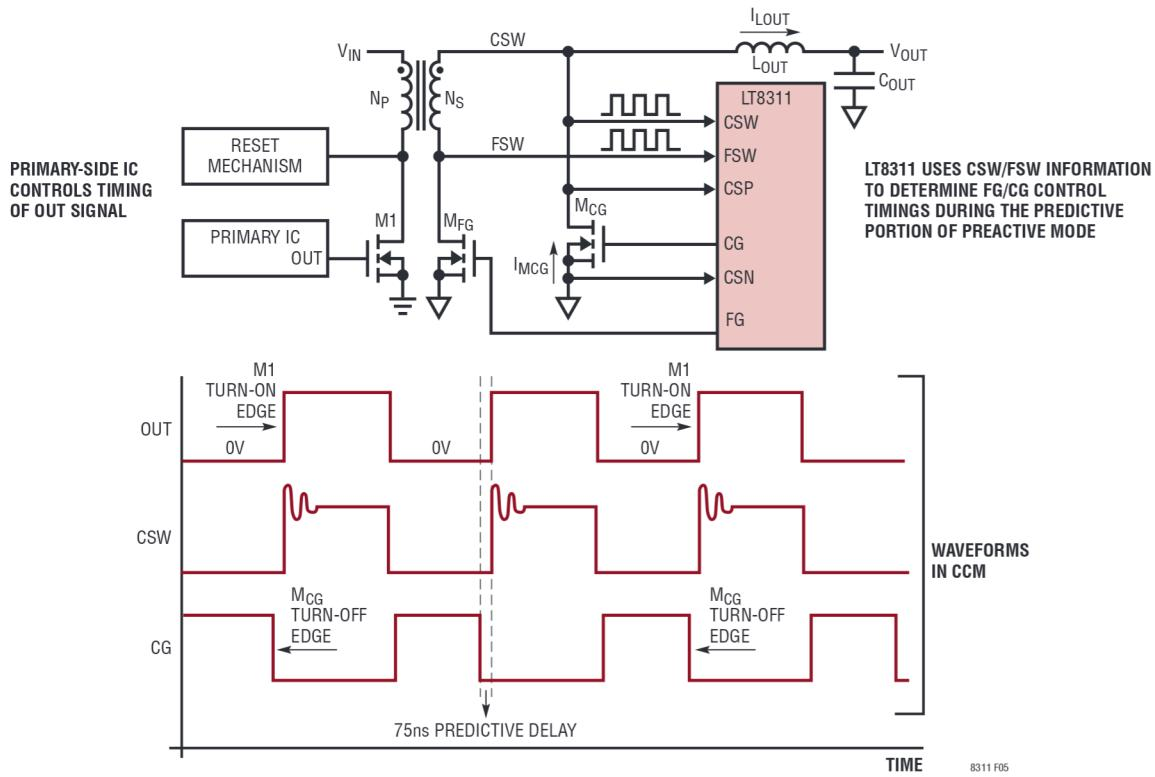

Figure 5. During the Predictive Portion of Preactive Mode, the LT8311 Phase Locks into the CSW Rising Edge and Turns Off M_{CG} 75ns Prior to This Edge
"Preactive" is short for "predictive" + "reactive". In preactive mode, the LT8311 controls the secondary synchronous MOSFETs without any communication from the primary-side IC. In preactive mode, the catch MOSFET, M_{CG} , is turned on (CG rising edge in Figure 5) when the voltage on its drain, CSW, is detected to be below $-150mV$, and the forward MOSFET, M_{FG} , is detected to be off. M_{CG} is turned off when the first of two events after M_{CG} 's turn-on occurs:
- **Predictive M_{CG} Turn-Off** (Figure 5): In predictive turn-off, the LT8311 predicts when M_1 will turn on in the next cycle, and turns off M_{CG} 100ns prior to this event. Predictive turn-off of M_{CG} prevents cross conduction between M_{CG} and M_1 . M_1 's turn-on timings are predicted by phase locking to the rising edge of present and past CSW cycles. Predictive turn-off relies on the periodicity of M_1 's turn-on edge, an inherent aspect of fixed-frequency operation. Furthermore, the predictive turn-off is designed to be independent of the duty cycle of the system, which allows M_{CG} to be correctly turned off, even during load/line transients. Predictive turn-off will typically be the dominant turn-off mechanism for M_{CG} in CCM.